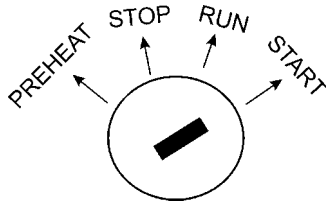

Figure 38. Engine Ignition Switch
7. If the generator is equipped with an ignition switch, turn the key to "Start" position (Figure 38). Once the engine starts, release the key to the "on" position.